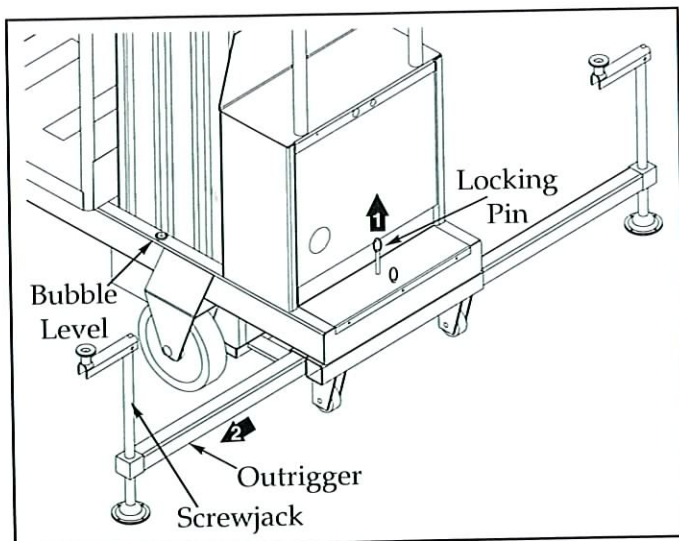

Figure 1: Preparing machine for elevation.
1. Lift locking pin and extend outrigger until locking pin reengages outrigger (Figure 1).
2. Repeat step one for all four (4) outriggers. Make sure all four (4) locking pins are engaged.
3. Lower each screwjack pad by turning screwjack clockwise (Figure 1). Repeat this process for all four (4) outriggers to center bubbles in bubble levels located on each side of chassis. **DO NOT** release the tension on an outrigger, by turning counter-clockwise, to level base.
3. Level the base, centering the bubbles in the bubble levels on either side of the chassis by adjusting screwjacks at the end of each outrigger (Figure 1).
4. All four (4) screwjack pads must be in solid contact with a firm level surface and the machine leveled before the platform is elevated.